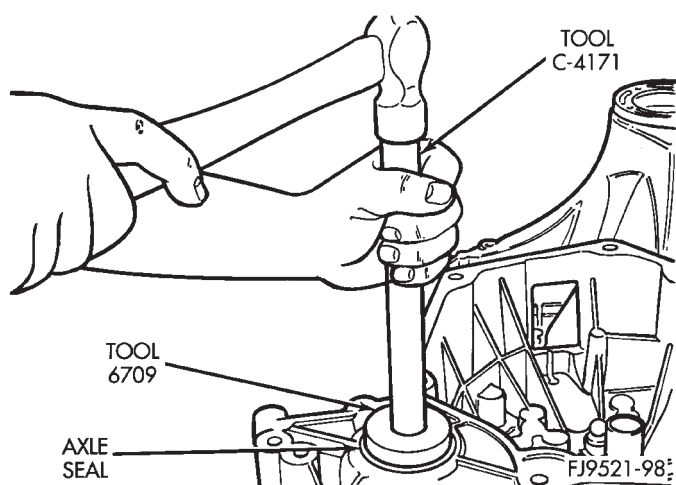

Fig. 131 Axle Seal Installation
(1) Clean axle shaft seal bore of any excess sealant.
(2) Align axle shaft seal with axle shaft seal bore.
(3) Install axle seal on tool #6709 with C-4171 and insert into axle shaft seal bore.
(4) Tap seal into position (Fig. 131).